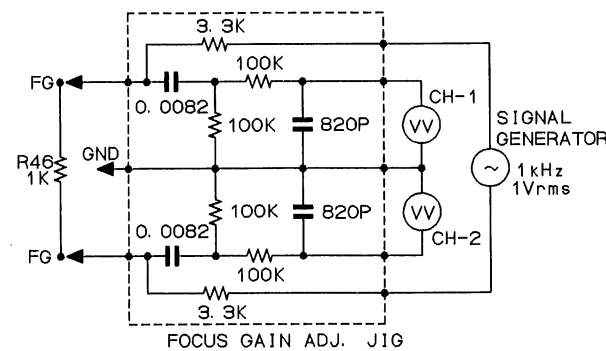

Figure 21-3
*2: Apply sine wave (Oscillation frequency 1.0 kHz, 1.0 Vrms) as shown in Fig. 21-3.